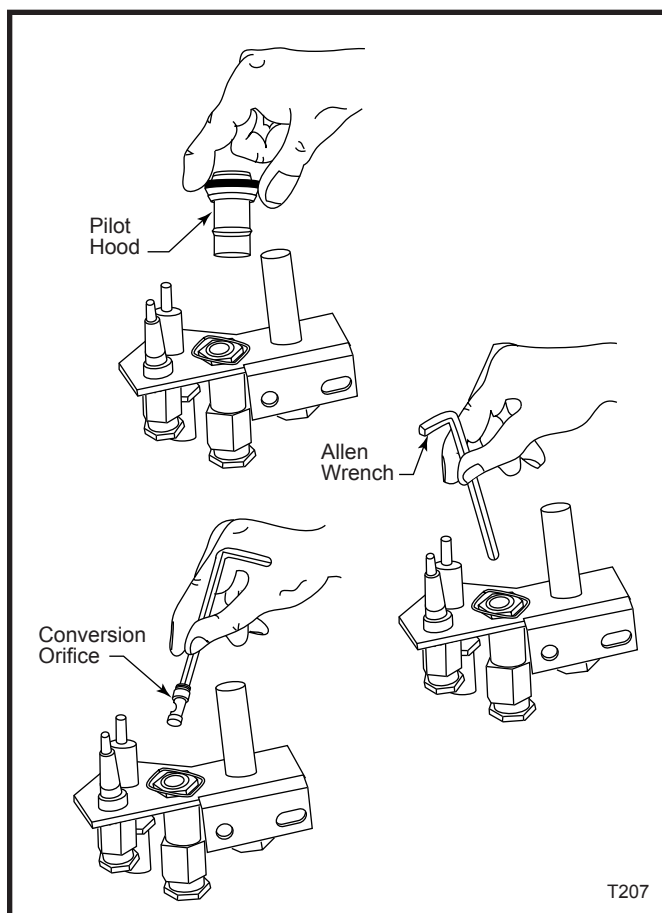

Fig. 47 Remove pilot hood and orifice. Insert conversion orifice.
1. The pilot hood is held in place by spring pressure. Remove the hood by pulling it directly up from the pilot bracket. (Fig. 47)
2. Insert a 3/32" (4mm) Allen wrench into the hexagonal keyway of the injector (Fig. 47) and rotate it counterclockwise until it is free of the injector journal. (Fig. 47)
4. Insert the Allen wrench into the end of the injector. Insert the injector into injector journal, and rotate the injector clockwise until a torque of 9 in/lbs. is achieved. Replace the pilot hood by aligning the tab on the base of the hood with the slot in the side of the pilot journal. Push the hood down directly onto the pilot bracket. (Fig. 47) The hood must sit squarely on the bracket for proper operation. Check to insure the hood is properly seated onto the pilot bracket.